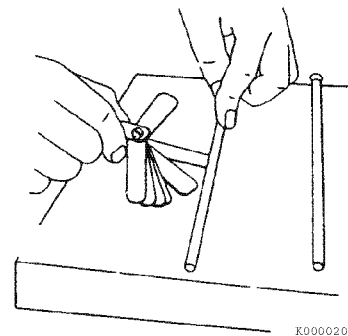

Figure 6-11
3. Use a feeler gauge to measure the gap (**Figure 6-11**). See *Push Rod* on page 6-5 for the service limit.